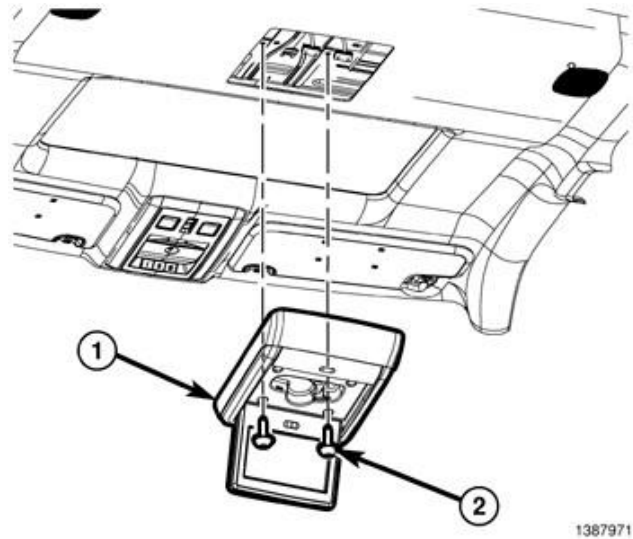
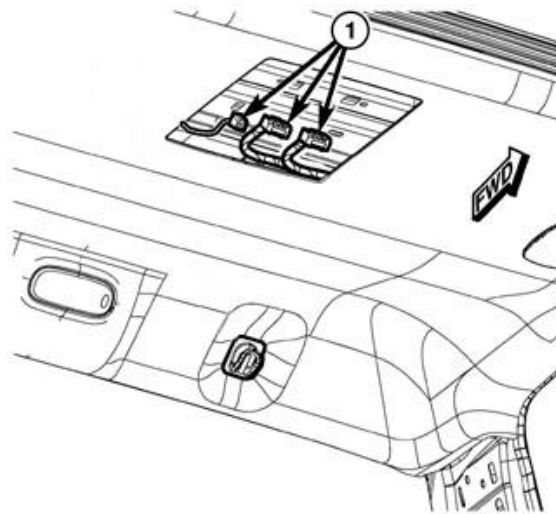

Figure 29 – Rear Seat DVD Monitor
Figure 30 – DVD Monitor Electrical Connectors
16. If equipped with DVD monitor, remove the screws (2) and separate the monitor (1) from the roof (Figure 29).
17. If equipped with DVD monitor, disconnect the electrical connectors (1) (Figure 30).
48. If equipped with DVD monitor, connect the DVD monitor electrical connectors (1) (Figure 30). Position the DVD monitor to the roof then install and tighten the screws (2) (Figure 29).
59. Install the seat belt turning loop cover (Figure 29).